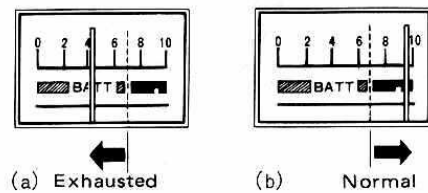

Fig. 4 Voltage Check
- ① Set the SQUELCH knob to the BATT position by turning it fully counterclockwise.
- ② Turn the power switch (POWER/VOL) to ON.
- ③ When the meter indication is as shown in Fig. 4 (a), it means that the batteries are weak. Replace all the batteries. In the case of Ni-Cd batteries, recharge the batteries referring to page 7.